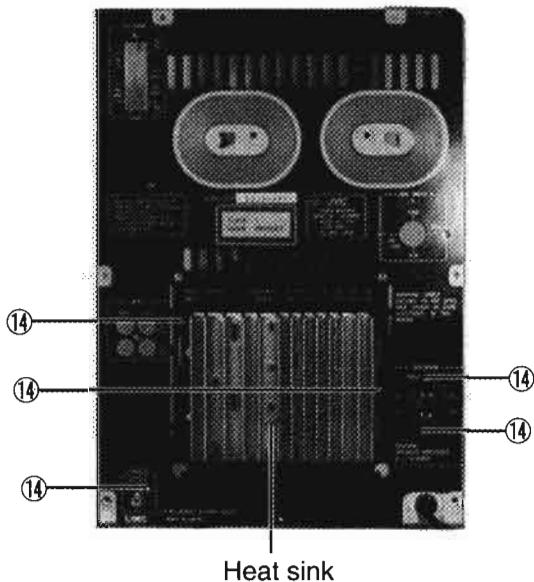

Fig. 12
7. Remove the five screws ⑯ fastening the power amplifier board assembly to the back side of the main unit. (See Fig. 12)